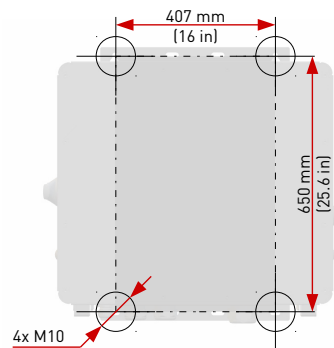

Fig. 8: Mounting dimensions
1. Mount the mounting rails as shown in Figure 8. Ensure that the ConnectionBox has an angle of at least 10°.